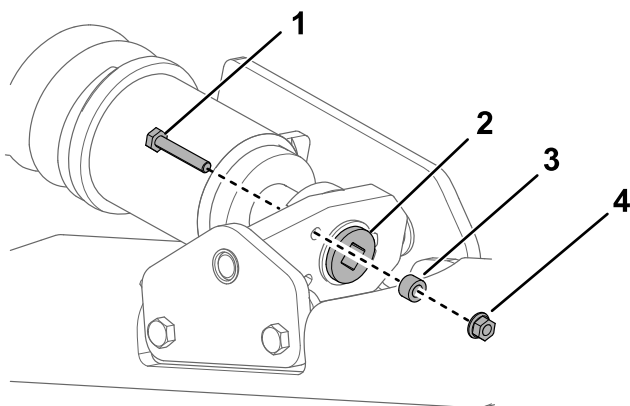
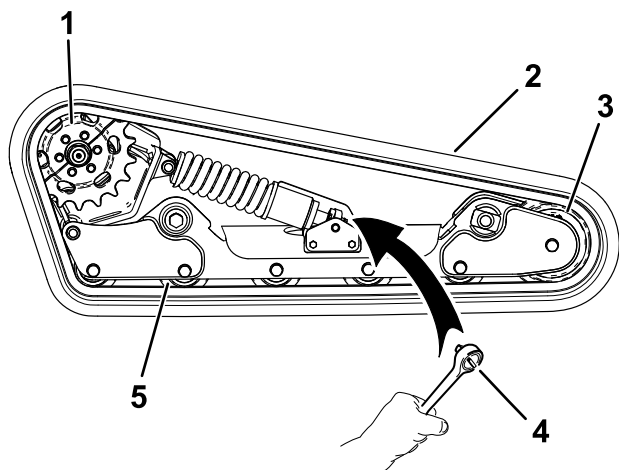

Figure 25
Figure 27
4. Remove the locking bolt, spacer, and nut (Figure 25).
6. Align the closest notch in the tension screw to the locking-bolt hole and secure the screw with the locking bolt and nut (Figure 25).
7. Remove the locking bolt, spacer, and nut (Figure 25).
8. Using a 1/2-inch drive ratchet, release the drive tension by turning the tensioning screw clockwise (Figure 25 and Figure 27).
1. Wrap the new track around the front wheel, then wrap the track around the drive hub on the side without the sprocket (Figure 27).
2. Push the track under and between the road wheels and wrap it around the lower frame (Figure 27).